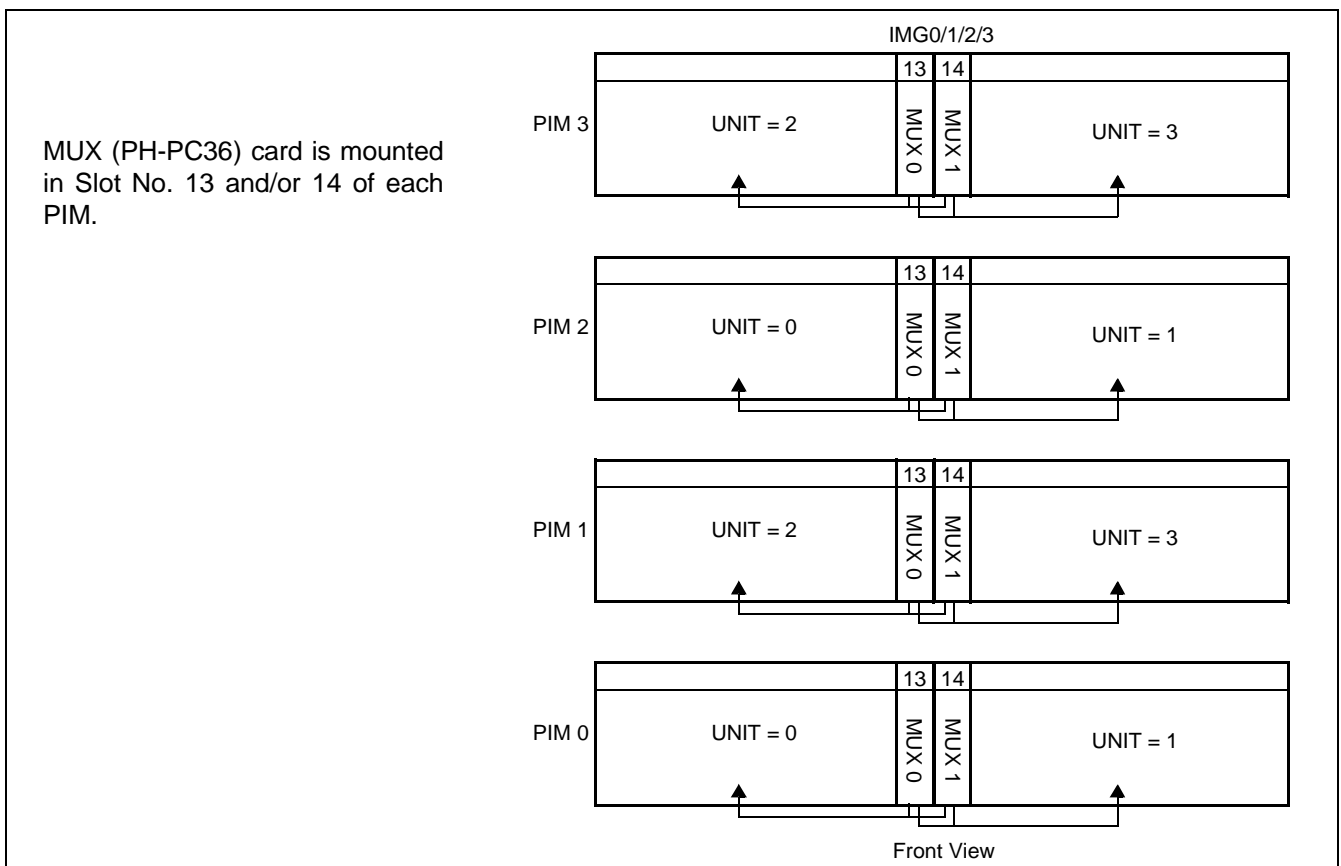

Figure 5-7 MUX Card Locations
- (2) The MUX circuit cards are operating in the ACT/STBY modes under control of the CPU circuit. When the ACT-side CPU has detected a fault in the ACT-side MUX circuit card, CPU changeover is executed and the ACT/STBY mode of the Speech Path System is also changed over. When both of the MUX circuit cards have become faulty, all the lines/trunks in that unit are placed into make-busy state. (If a PFT circuit card is located in that specific unit, the PFT is activated.) Figure 5-7 shows the location of the MUX cards.
- (3) When both units in a specific PIM are faulty, it is possible that the PWR circuit card mounted in that specific PIM is faulty. In such a case, refer to Section 8, Power Supply Fault.